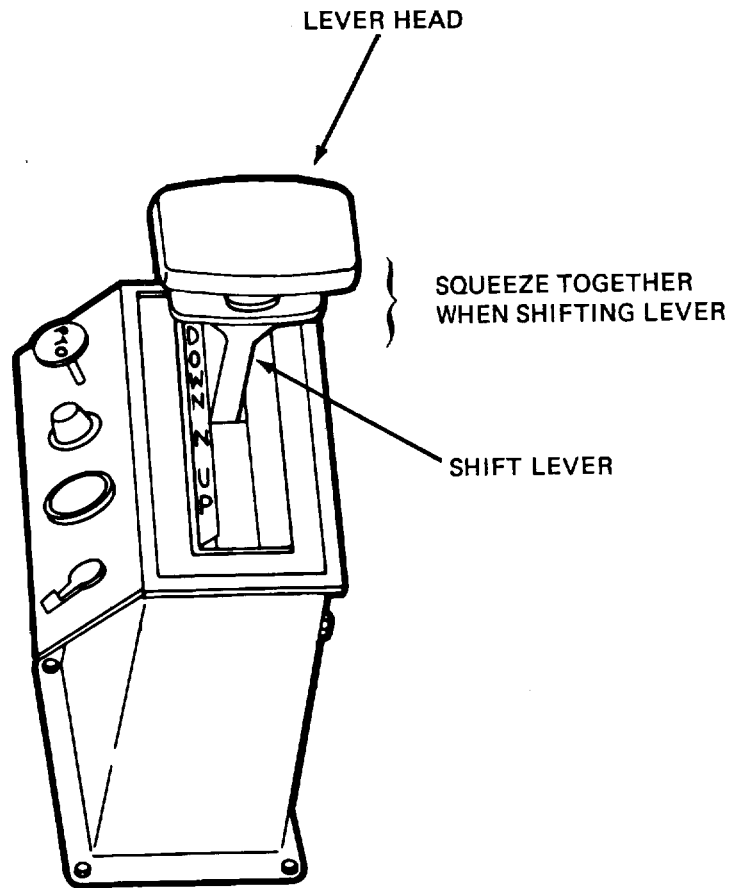

Figure 2-9. Hydraulic Control Lever.
- e. Squeeze T-handle head of the hydraulic control lever (fig. 2-9). Move the lever to the UP position. When the bed is raised to the desired range, release the head and place the lever in the N (neutral) position.
- (4) Place the T-handle control lever (fig. 2-9) in the N (neutral) position.
- (5) To lower, swing the strut down into its stowed position. You will have to raise the bed slightly to take weight off the safety strut before it will swing down.
- g. When dumping is finished, squeeze the T-handle control head (fig. 2-9) of the hydraulic control lever and move the lever to the DOWN position.
- h. When the bed is fully lowered, release the T-handle control (fig. 2-9) and place the lever in the N (neutral) position.
- e. Move the T-handle control lever (fig. 2-9) to the UP position. Raise the dump body 2-3 ft., then release the T-handle and place the lever in the N (neutral) position.
- j. When the bed is empty, move the T-handle control lever (fig. 2-9) to DOWN. Lower the bed completely.